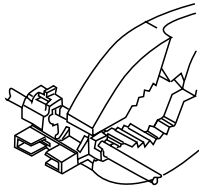

Figure 9
4. Repeat for wire W-5 End 2. Using pliers, fold the connector body and crimp. (Fig. 9)